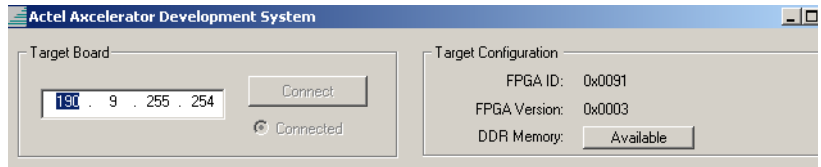

Figure 2-8. Running the DDR Memory Interface Demonstration
1. **Click on the Available button in the Target Configuration section of the main Axcelerator Development System window.** See Figure 2-8.